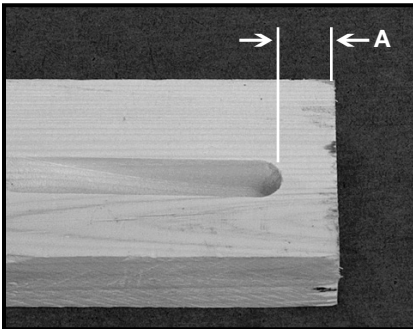
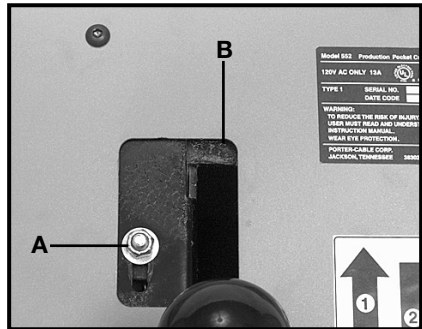

Fig. 27
Fig. 28
Move the rear stop (B) Fig. 28, toward the rear of the machine to reduce dimension (A) Fig. 27. Move the rear stop toward the front of the machine to increase dimension (A) Fig. 27. Move the rear stop 1½ times as far as the desired change to workpiece.
2. Use 7/16" wrench to loosen lock nut (A) Fig. 28.